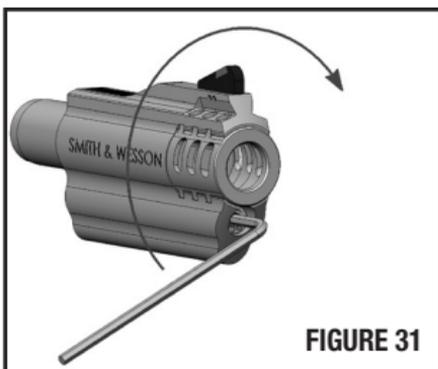

FIGURE 31
1. Insert a 2.5mm hex wrench into the screw under the compensator, (below the muzzle opening) and turn **CLOCKWISE** until the lock screw stops (approximately 2-3 turns) (FIGURE 31).